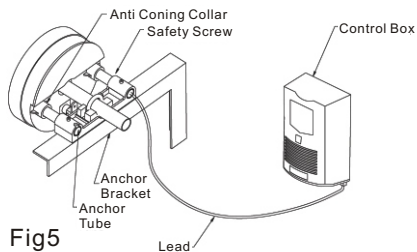

Fig5
- o. Slide anti-coning collar over each end of spindle at the opposite side of the door to the motor so that it is flush with the edge of the split ring. Secure anti-coning collar tightly to ensure it will not move. (Fig. 5)
- p. Push the anchor tubes through the anchor block and slide the assembly over the wall bracket. Thread the drive unit loom through the anchor tube and place the anchor tube firmly into the female boss on the main body. Once in place, lock the anchor tube and block it with the self-tapping screw provided. (6 3/8) (Fig. 5)